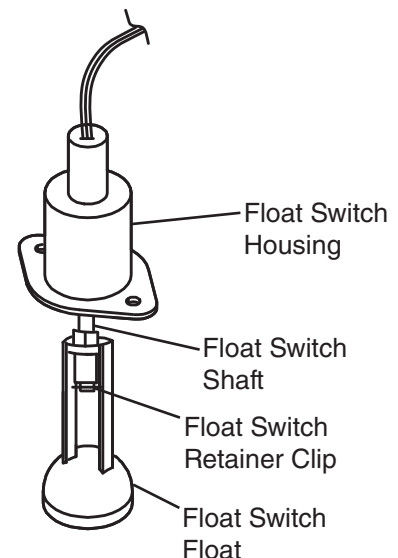

Fig. 9
- 6) Remove the retainer clip from FS shaft, then remove the float. Be careful not to damage or lose the retaining clip when removing it. See Fig. 9.